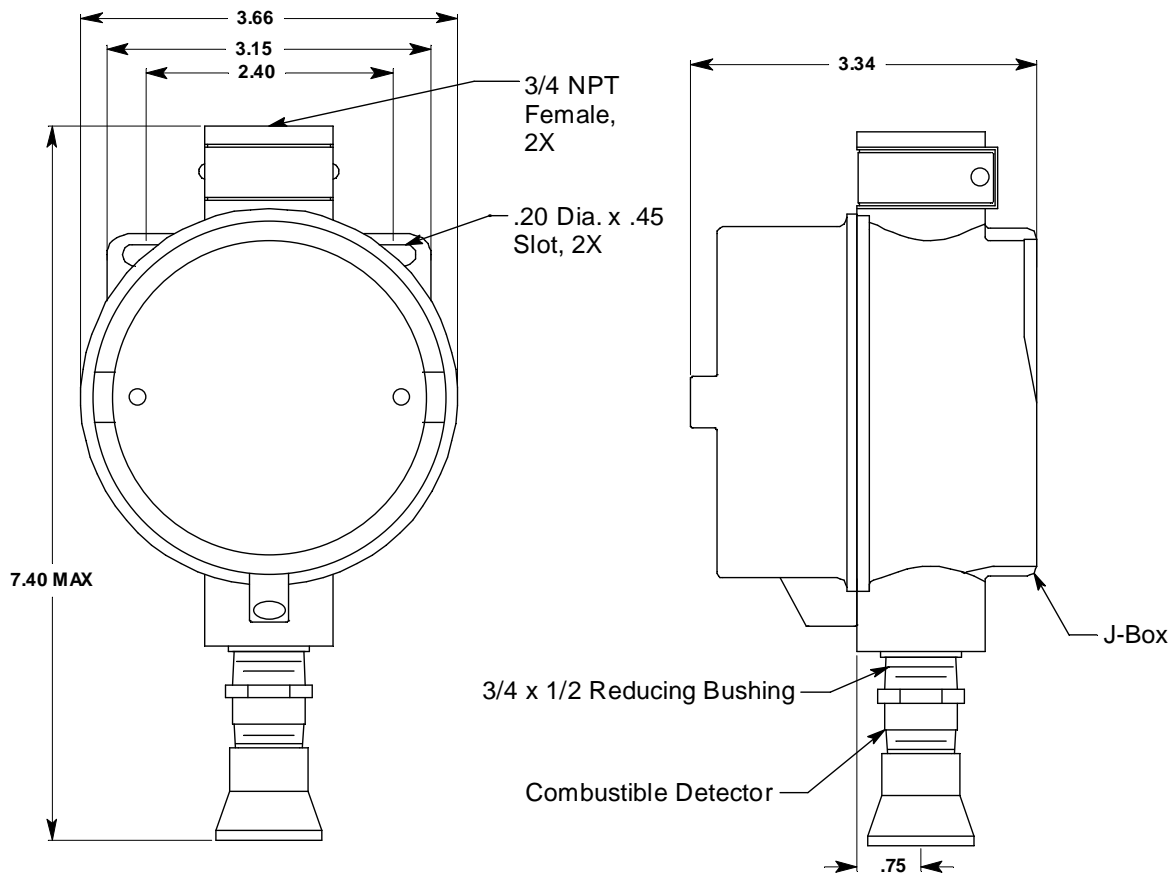

Figure 2: Mounting the Combustible Gas Transmitter
2. At the monitoring site you select, hang or mount the junction box with the detector facing down (see Figure 2).